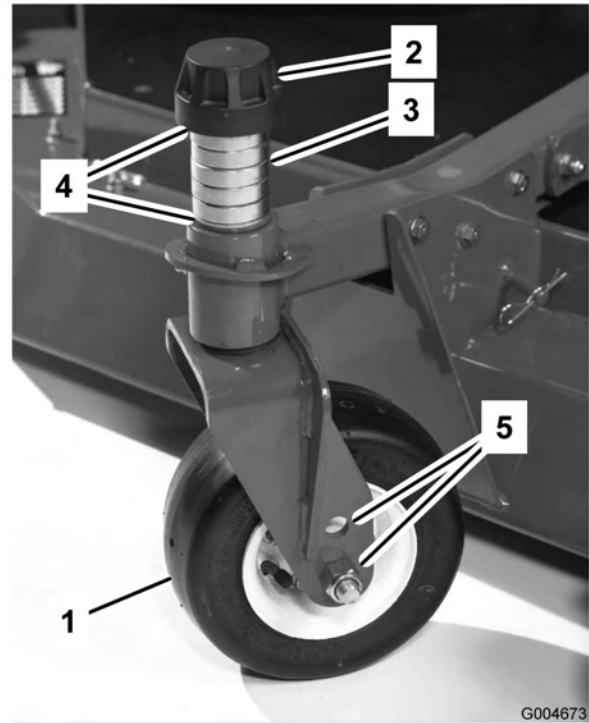

Figure 14
3. Remove the tensioning cap from the spindle shaft (Figure 14) and slide the spindle out of the castor arm. Put the 2 shims (1/8 inch [3 mm]) onto the spindle shaft as they were originally installed. These shims are required to achieve a level across the entire width of the cutting units. Slide the appropriate number of 1/2 inch spacers (refer to the chart